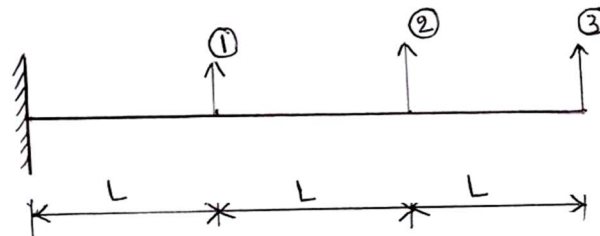

Fig Q1.b
- b. Develop the flexibility matrix for the cantilever beam shown in Fig. Q1.b with respect to coordinates given. Take EI = constant.